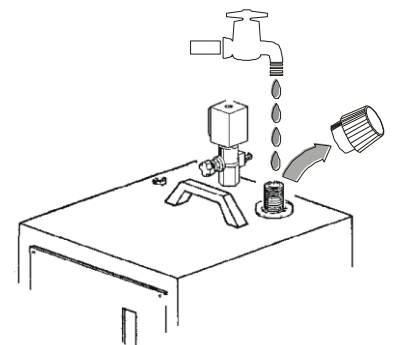

Fig. 4
1. Unscrew the security valve plug (fig. 4), fill the boiler with water till overflow or at pleasure.
Unscrew the valve plug (fig. 4) and tilt the SATURNINO towards the right so that all water and impurities come out.